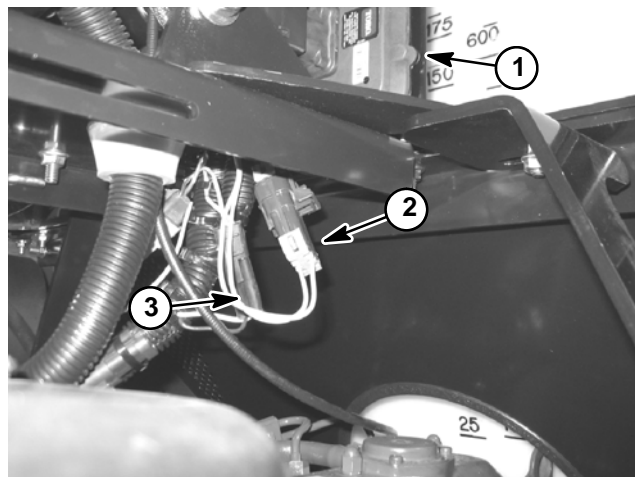

Figure 14
2. Locate Ultra Sonic Boom wire harness communication port and loopback connector under the operator seat (Fig. 14). Carefully unplug loopback connector from harness connector.